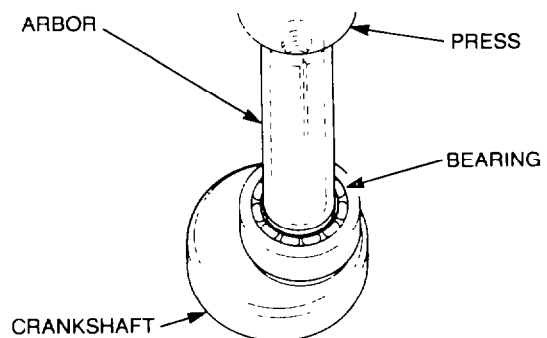

Figure 6 — Crankshaft Inner Bearing — Installation
- a. Using a suitable press, install the inner bearing on the crankshaft (see Fig. 6), ensuring that the bearing is hard against the crankshaft web.